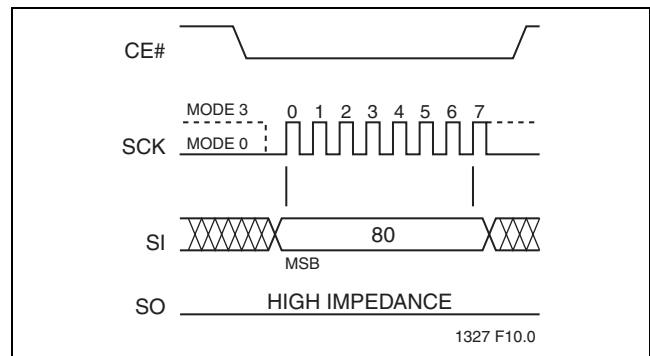

FIGURE 10: Disable SO as Hardware RY/BY# during AAI Programming
The 8-bit command, 80H, prevents the Serial Output (SO) pin from outputting Busy status during AAI-Word-program operation and re-configures SO as an output pin. The device can only accept the 80H command when the device is not in AAI mode. Once SO is an output pin, in AAI mode the device can accept both RDSR instruction for polling and Software Status Register data outputs through the SO pin. This is shown in Figure 10.